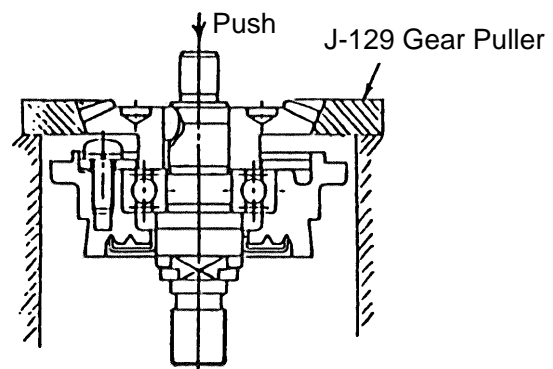

Fig. 4
- (1) Loosen the M4 x 12 Machine Screws (25), and remove the Packing Gland (24) together with the Spindle (27), and Gear (19) from the Gear Cover (4) in a single body.
- (2) As illustrated in Fig. 4, support the angled surface of the Gear (19) with a J-129 Gear Puller (special repair tool, Code No. 970905), rest the J-129 Gear Puller on a J-130 Sleeve (special repair tool, Code No. 970907), and push down on the tip of the Spindle (27) with a hand press to remove the Gear (19).